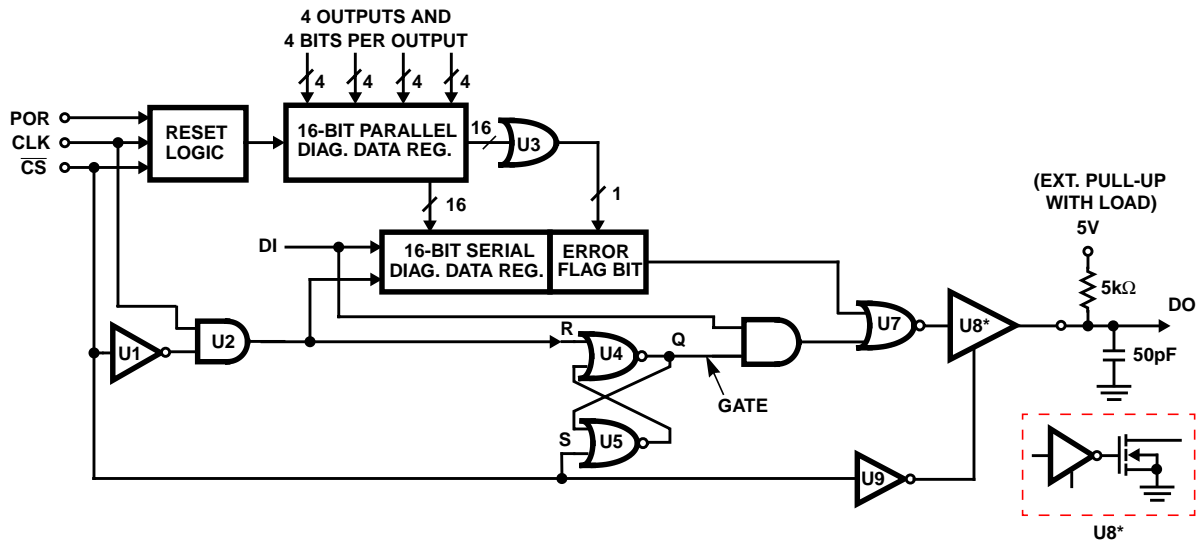
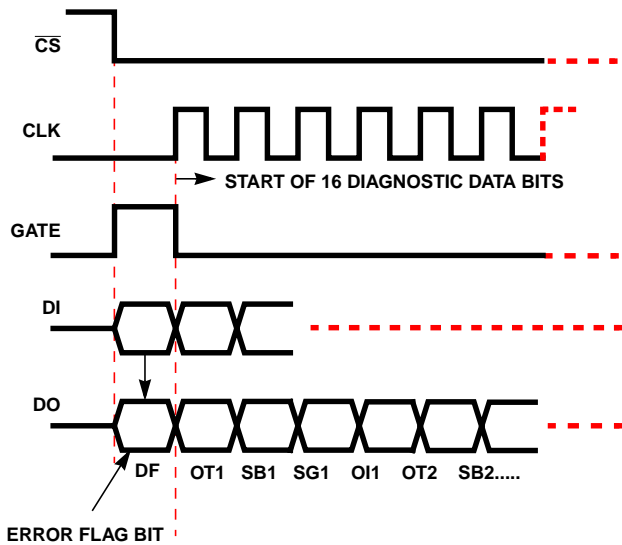

FIGURE 1. DIAGNOSTIC INTERFACE LOGIC
FIGURE 2. DATA AND CLOCK TIMING
HIP0080, HIP0081 Referring to Figure 1 and Figure 2, there are two sources that generate an OR'ed Fault Flag at DO when  $\overline{CS}$  goes low. The two fault data sources are (1) the on-chip fault detection and (2) the off-chip DI input from front end ICs in the cascade. The fault data bit, labeled DF (Data Fault) in Figure 2, contains the OR'ed inputs from both sources. The DF bit is not part of the 16-bit serial diagnostic data sequence. In cascaded operation, the DI input for the first of the selected chips should be tied low. And, in single IC operation (no cascade), the DI input should also be tied low. In cascaded operation, the Error Flags are cascaded via the DI inputs.
HIP0080, HIP0081 The last IC in the string ORs its own 16 fault bits in the parallel diagnostic register data and sends this data bit to an Error Flag register. The Error Flag register outputs the presence of a fault in one or more bits of the parallel diagnostic data register. As shown in Figure 2, the Error Flag is the first bit in front of the serial register and is input to OR Gate, U7 with the DI input. The DI input passes thru AND Gate, U6 when the GATE signal is high and output via the amplifier U8 to DO. The output amplifier U8 is active only while  $\overline{CS}$  is low. When  $\overline{CS}$  is low, the RS Flip-Flop drives the GATE output high. When the GATE is high, the cascaded DF bits are jammed from DI to DO. All Error Flags in the cascade are cleared (by the CLK input) when the serial diagnostic data is clocked out of DO.
HIP0080, HIP0081Technically, the HIP0080 and HIP0081 fault data has only 16 bits. Except for the Error Flag, DF data bit shown in Figure 2, the format matches that of a normal CPOL = 0, CPHA=1 SPI protocol (polarities, phase, etc). The DF bit from the DO output is active only until the clock starts. The best way to take advantage of it (if desired) is to connect the DO to the SPI bus, and also to a port pin, or other logic input. After CS goes low and before the SPI clocks starts, the DF bit can be read. If it is a zero, then the rest of the data does not have to be read. (The data will be all 0's = no errors). If the DF bit = 1, then the data must be read to find out which bit(s) is set.